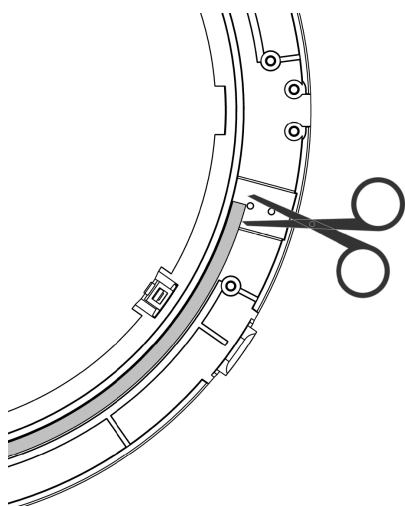
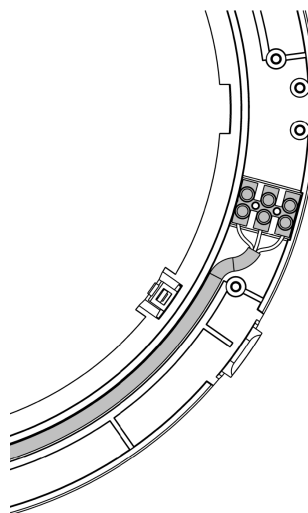

Figure 33 - Shorten the internal cable
Figure 34 - Internal cable connected to terminal 2
4. Shorten the internal cable to fit the new placement of terminal 2, and attach it, see Figure 33 and Figure 34 below.